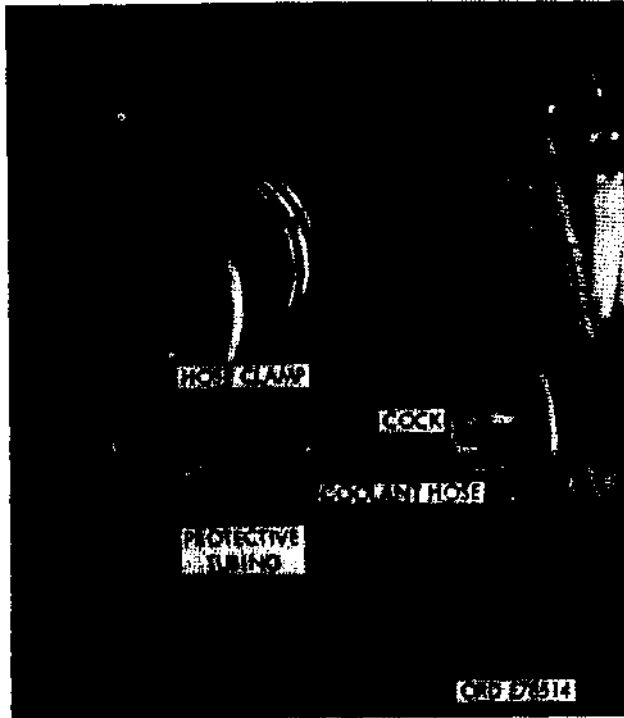
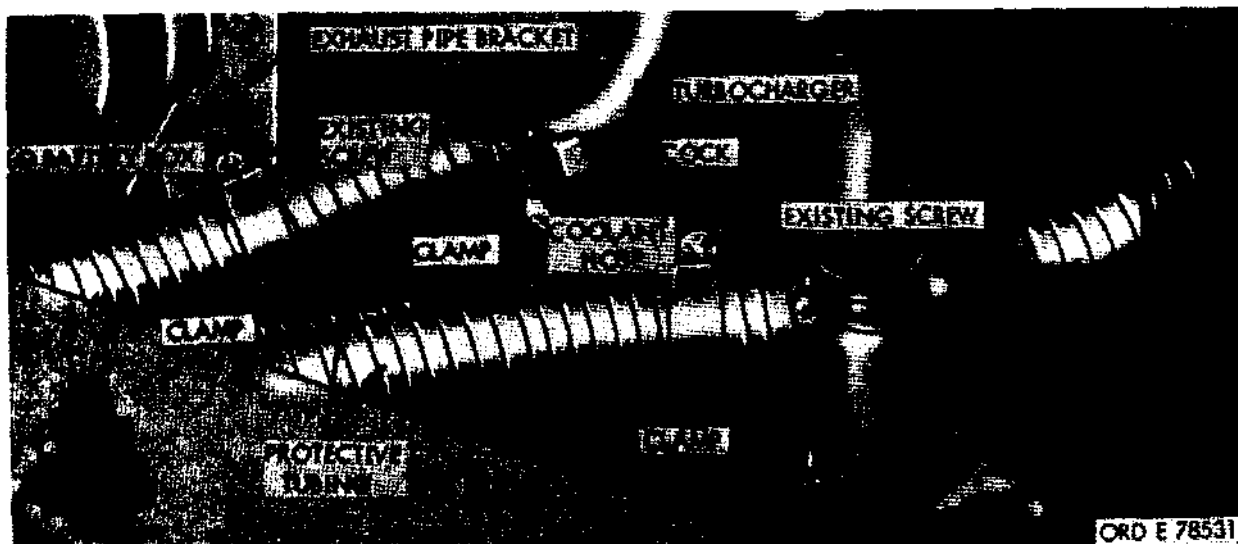

Figure 704. Outlet for heated coolant.
Figure 705. Coolant hoses installed.
- (3) Remove block plug at turbocharger (fig. 704) and install cock 543852.
- assembly to exhaust pipe support bracket with clamp 8707524 (fig. 704).
- (11) Place one end of 24 in. long coolant return tube over battery outlet tube beneath vehicle floor (through oblong hole) and secure with clamp MS 96906-35842-2.
- (12) Place 22 in. long protective tube 7986268 over hose attached in (j) above, and attach other end of hose to cock 596800 in heater previously installed. Secure with clamp 96906-35842-2.
- (13) Insert hose 8376141 (78 in. lg) inside of
- (14) Route assy under supercharger to right side of flywheel housing and into battery compartment. Connect end of hose to elbow on top of heater and secure with clamp MS 35842-2.
- (15) Remove bottom left screw from oil pressure regulator. Secure hose and tube assy to oil regulator assy with clamp 8707524.
- (16) Drill a 5/16 in. dia. hole through both sides of lower right cab support, $\frac{7}{8}$ in. from bottom and $\frac{3}{4}$ in. from edge (fig. 705). Secure hose and tube assy to inside surface of cab support with clamp 8707524, screw MS 35292-8, washer, MS 27183-10 and nut MS 51922-5.
- (17) Replace coolant in radiator.